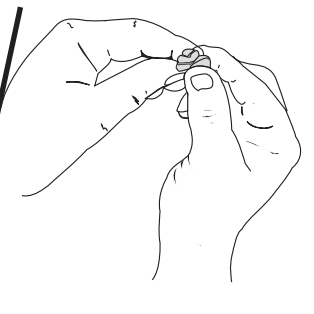

Fig. 23
5. Squeeze the filter to spread and remove excess oil (Fig. 23).